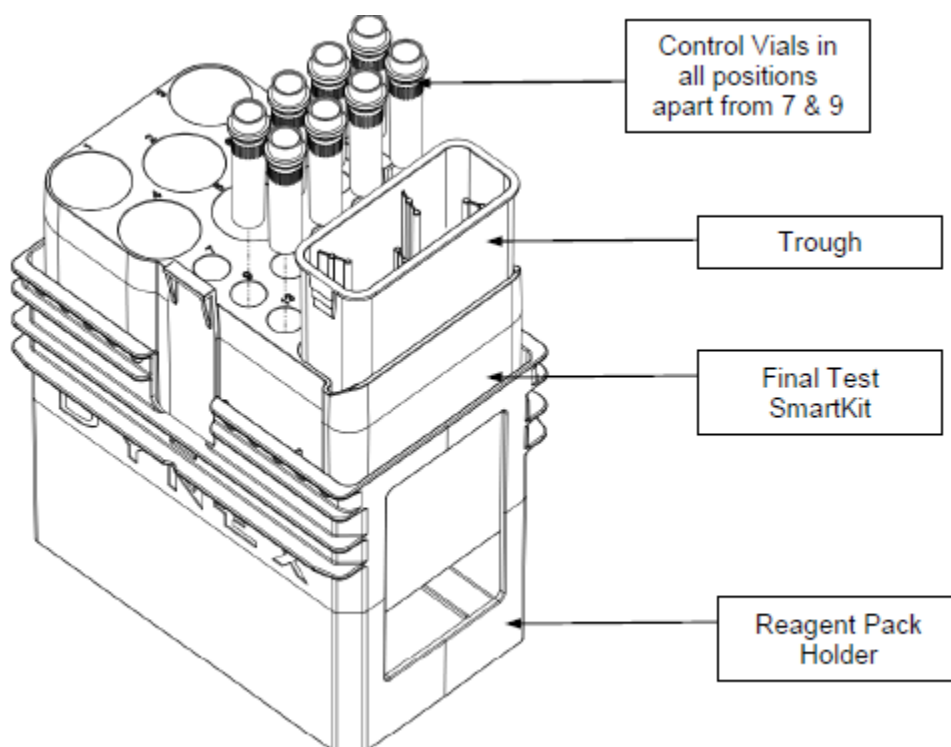

Figure 5-8: Final Assay Smart Kit
7. Fill a Bronze Kit Trough (Figure 5-8) with a minimum of 30mL DI Water and place into the Final Assay SmartKit. Also, fill eight Control Vials with a minimum of 1mL Red Dye each (as per reddye.doc) and place in the SmartKit as shown. Load the Kit into a Reagent Pack Holder and load into any of the loading bays on the doors.